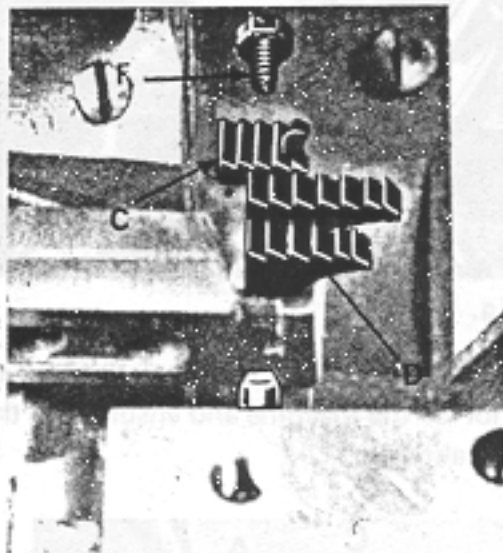

fig.12
8. Fitting and adjusting feed dogs (figs. 12 and 13).
- Fit the rear feed dogs C and D (fig. 12) and match the feed dog slides.